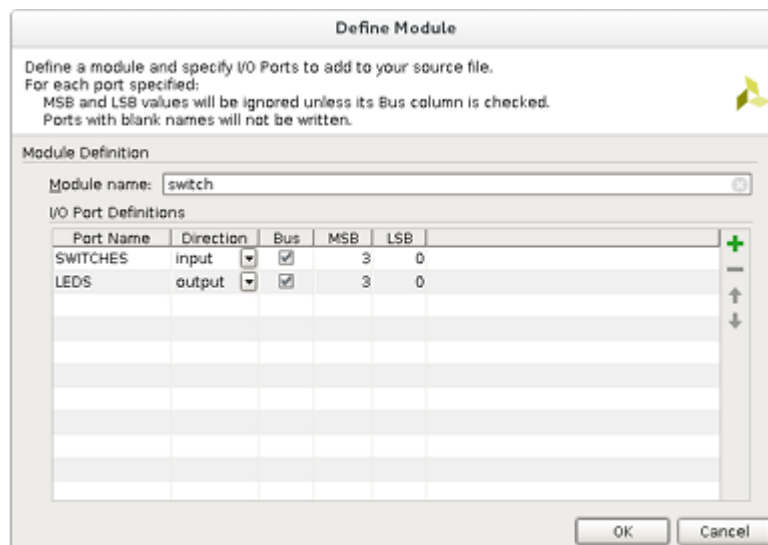

Figure 3: Define Module
- You will see two devices. Select the first device with part number 'xc7z010clg400-1' and click 'Next'. Finally, review the information in the 'New Project Summary' window and hit 'Finish' to create project. Next, the 'Define Module' window appears (Figure 3). This allows us to define the ports for our hardware module. Xilinx will then auto generate part of our source file based on the information provided. Specify a port called 'SWITCHES'. Set its direction to 'input', check Bus, set the Most Significant Bit (MSB) to 3, and set the Least Significant Bit (LSB) to 0. Specify another port called 'LEDS' and set the direction to 'output', check 'Bus', set MSB to 3, and set LSB to 0. This will create a 4-bit input port, which will connect to the on-board slide switches, and a 4-bit output port, which will connect to the on-board LEDs. Click 'OK'